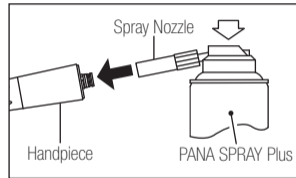

Fig. 9
- 3) Insert the Spray Nozzle in rear of the handpiece. Hold the handpiece and spray for approximately 2-3 seconds. Apply lubricant until it expels from the handpiece head for at least 2 seconds. (Fig. 9)